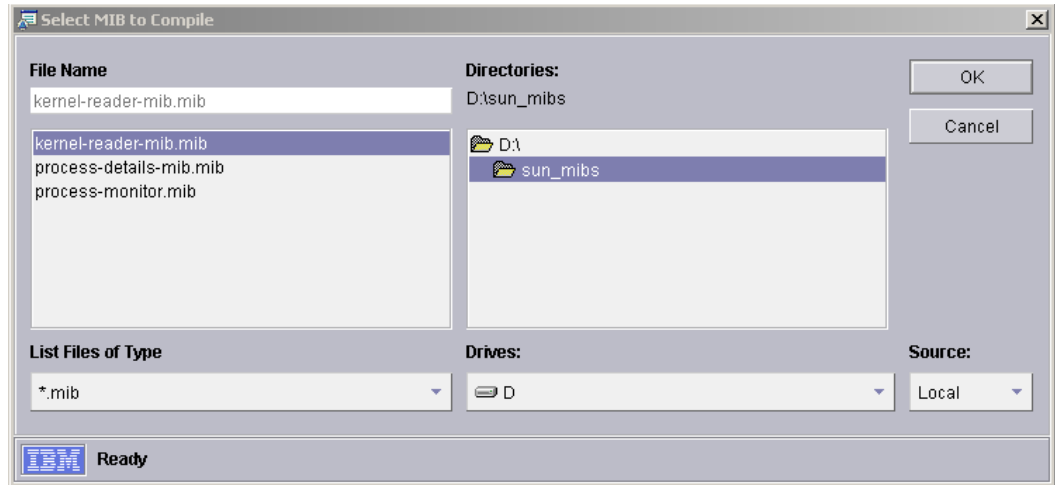

Figure 3-7 Select MIB to Compile window with VMware Root MIB selected
3. In the Select MIB to Compile window (Figure 3-7), specify the directory and file name of the MIB file you want to compile, then click **OK**.